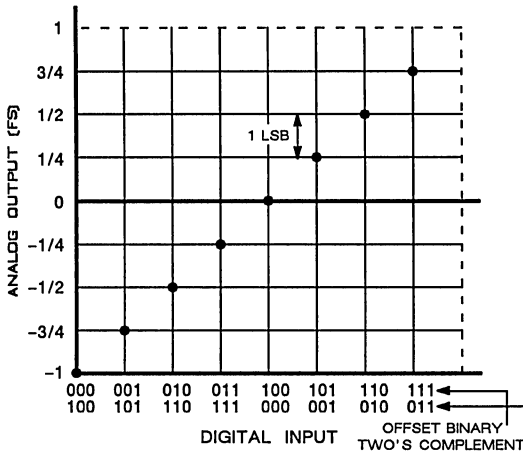

Figure 4. Bipolar DAC Transfer Function
Figure 4 shows the transfer function of a bipolar 3-bit DAC. The digital coding used can be offset binary or two's complement [the most significant bit (MSB) is complemented.] In the bipolar mode, the maximum output value is still 1 least significant bit (LSB) below full scale (FS), but an LSB is twice as large as it is in the unipolar mode because the total output swing is now  $(2 FS - 1 LSB)$ .